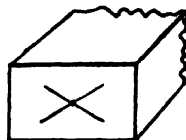

Fig. 12-8.
**Diagonal-line Method** (Fig. 12-8). Rectangular pieces are easily centered by drawing diagonal lines.